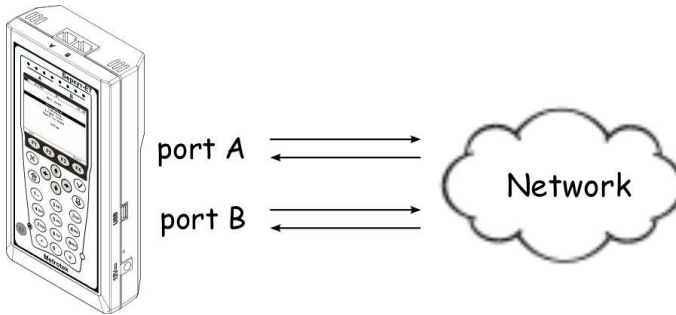

Figure 5.55. Connection diagram 2
***Note:** you can connect **Bercut-ET** to network using two ports (see fig. 5.55). In this case settings are the same as for the one port connection.*